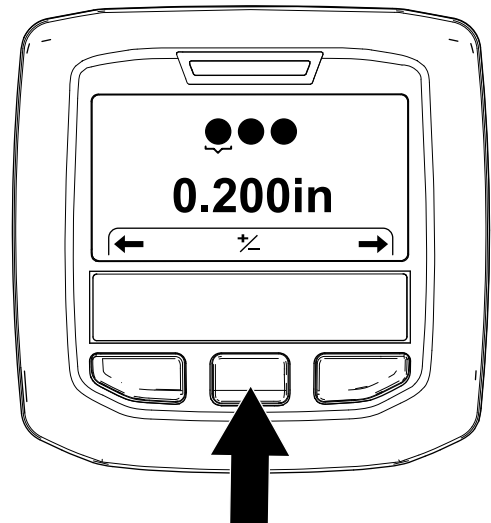

Figure 58
3. Press the right InfoCenter button until the Setting the Tine Diameter screen displays (Figure 58).